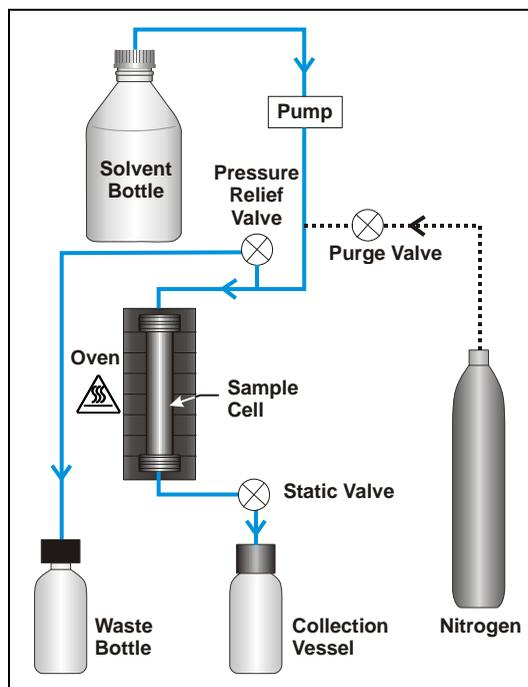

Figure 2-4. Extraction Process Schematic
1. *Fill the cell with solvent*—the pump is turned on and the static valve is closed (see Figure 2-4). Solvent is pumped into the sample cell until the cell pressure reaches 10.35 MPa (1500 psi).